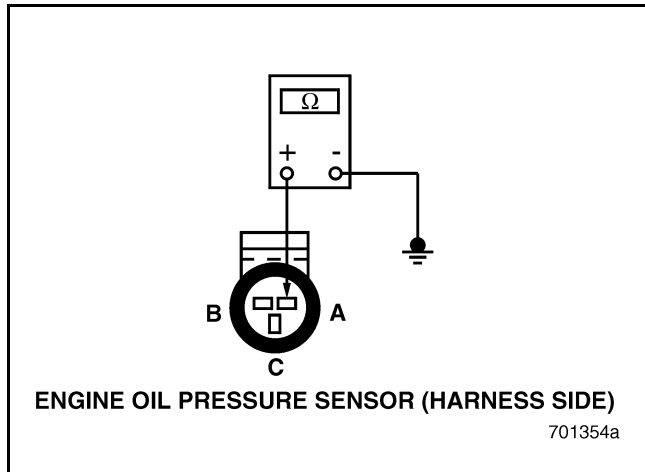

Figure 20
3. Check for continuity between EOP Sensor harness connector pin A (ground line) and a good ground (see Figure 20).